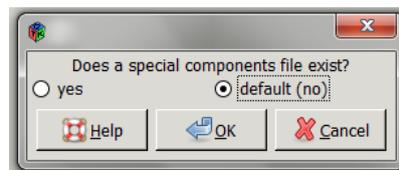

Figure 4
Step 4: A pop-up window will then appear asking if a special component file exists, click >no (figure 4)